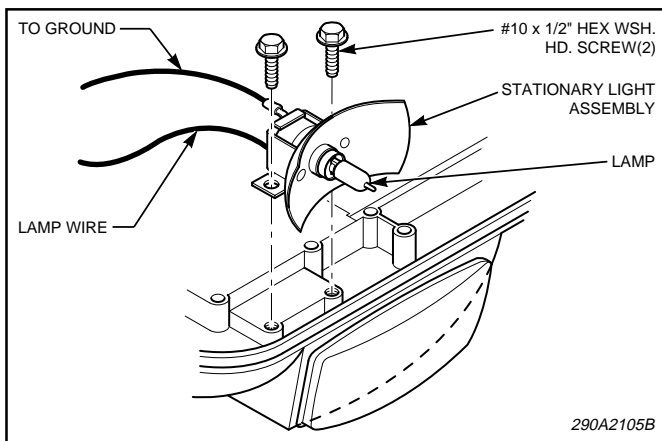

Figure 2.
- See figure 2. Place the stationary light assemblies in position at the desired locations.
- See figure 2. Secure each assembly in position using two #10 x 1/2" hex head thread-forming screws. Torque the screws to 30 - 55 in-lbs.